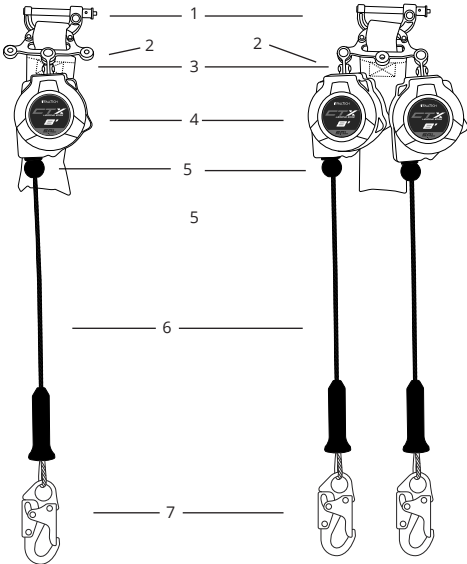

Figure 2 - About the CT-X Cable Class 2 Leading Edge SRL-P
As shown in Figure 2 below, the CT-X Cable has a nylon housing that contains a galvanized wire rope (cable) lifeline wound onto a spring tensioned drum. The CT-X Cable lifeline is equipped with a lifeline stop and a leg-end connector. When the user is attached, the lifeline extends and retracts with the user movement, automatically maintaining taut lifeline. If a fall occurs, a centrifugal pawl system engages, stopping the lifeline payout. In a fall event, the SRL-FBH Connector will break away from the Shear Connector, and the integral Energy Absorber (EA) will deploy, gradually slowing and arresting the fall.